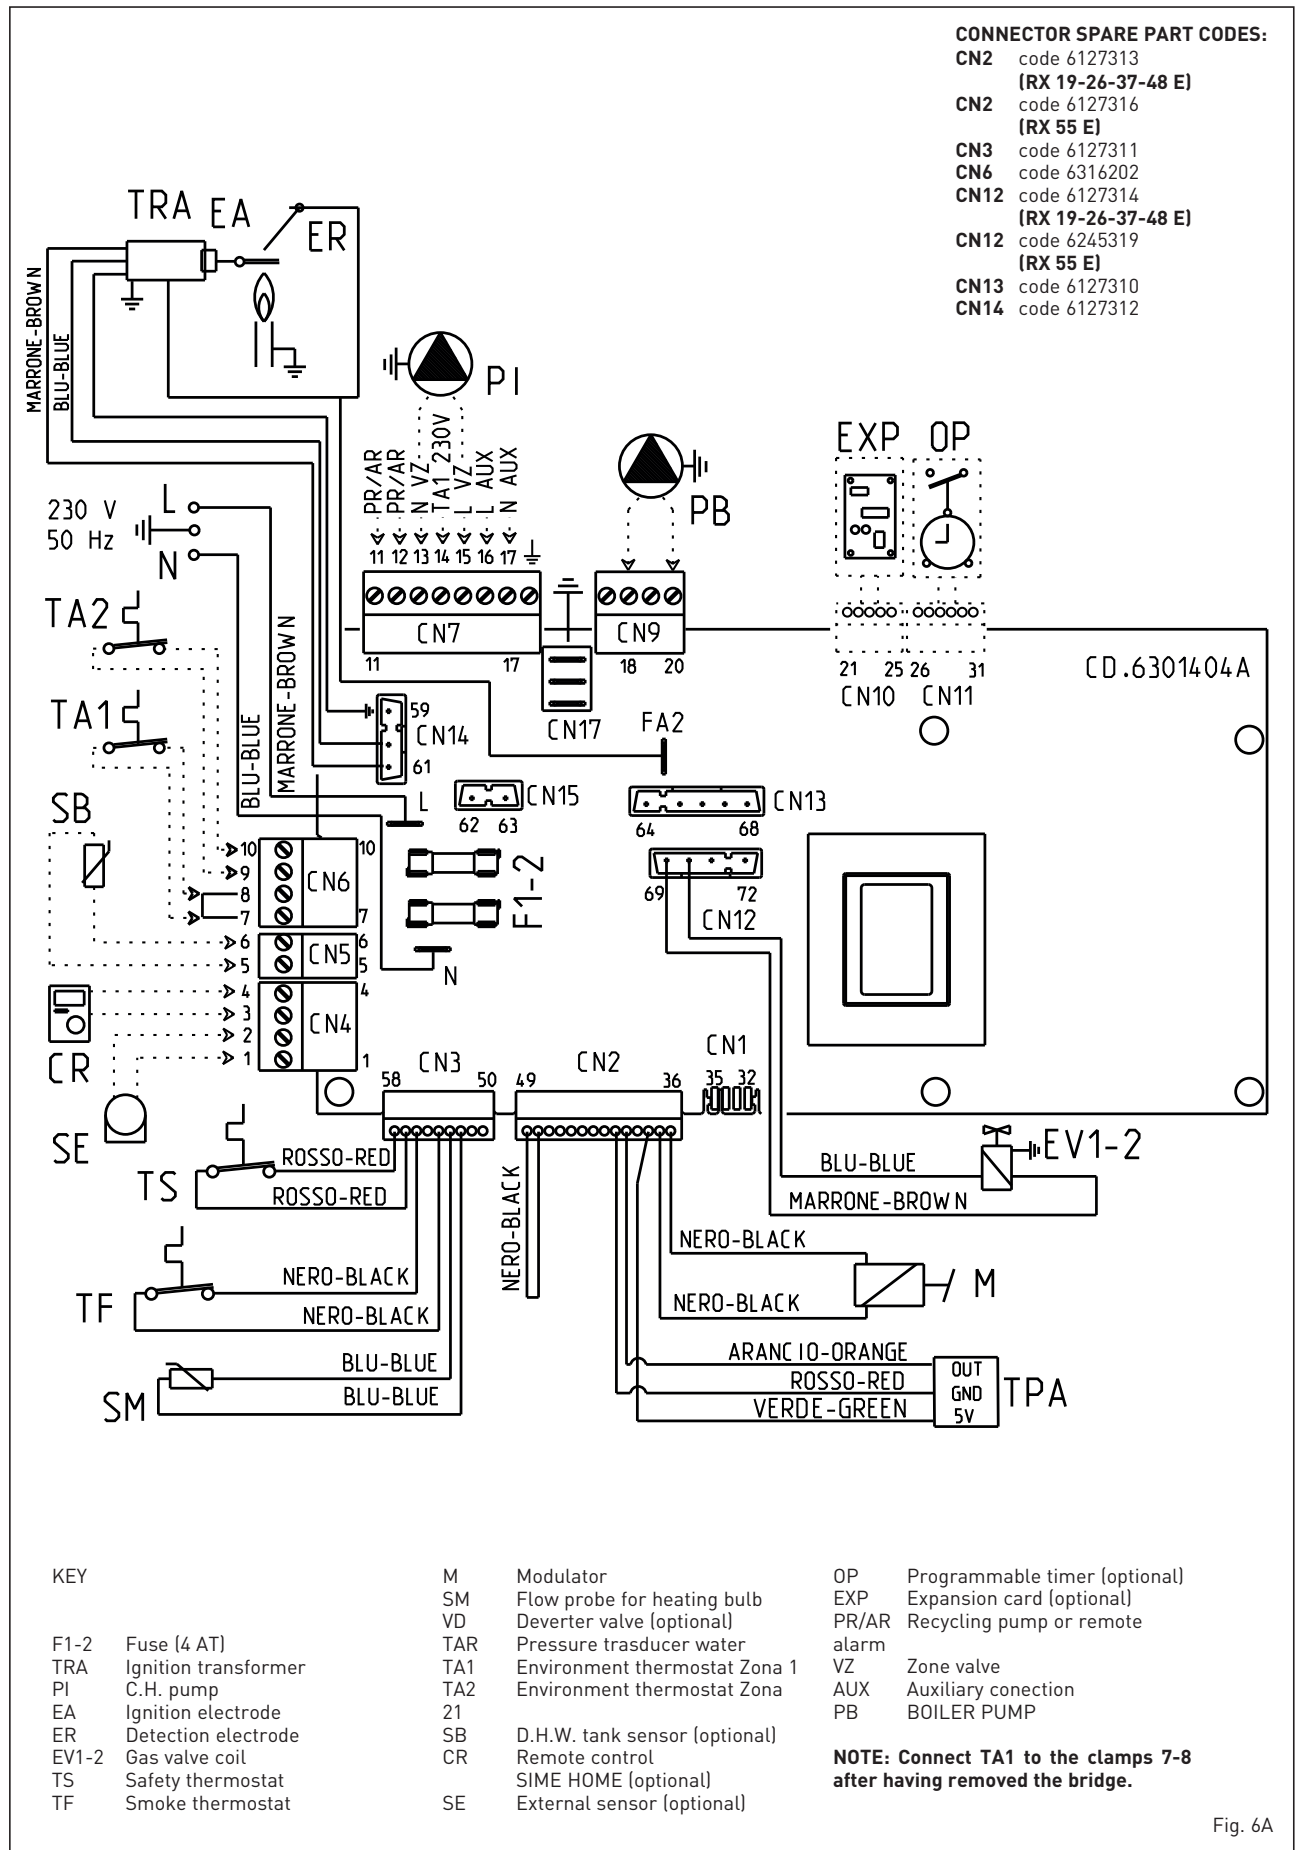

Fig. 6A
2.12.2 BOILER ELECTRICAL WITH DOUBLE CIRCULATOR (fig. 6A)